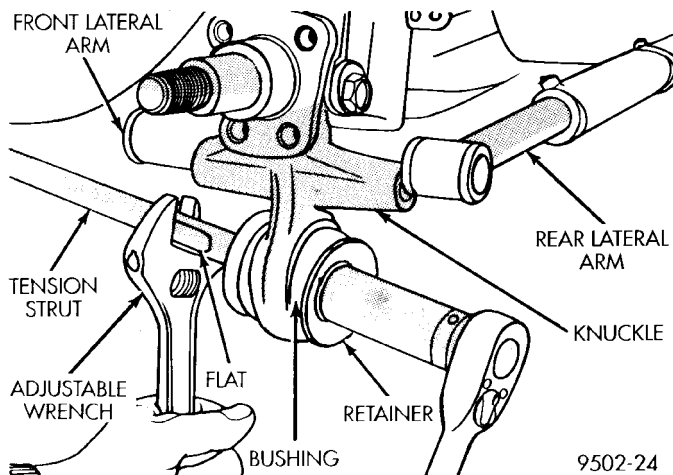

Fig. 18 Tension Strut To Rear Knuckle Attachment
(10) Hold tension strut from turning by using a large adjustable wrench on flat of tension strut (Fig. 18) and remove tension strut nut. Then remove nut, tension strut retainer and rear tension strut bushing from tension strut at rear knuckle (Fig. 18).